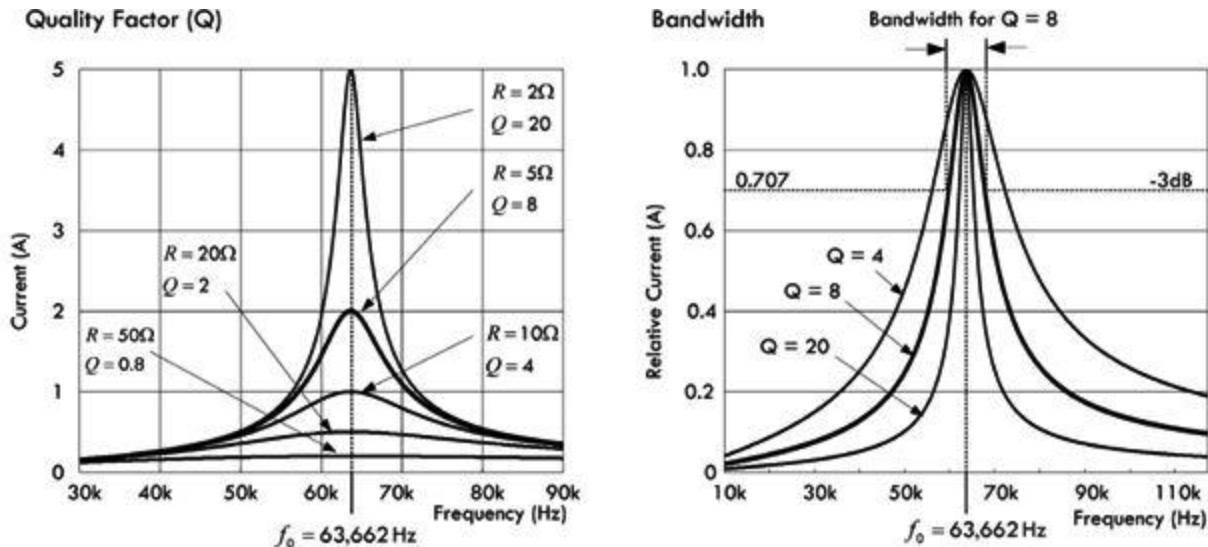

FIGURE 2.179
As mentioned earlier, the ratio of reactance or stored energy to resistance or consumed energy is by definition the quality factor Q . (Q is also referred to as the figure of merit, or multiplying factor.) As it turns out, within a series RLC circuit (where R is internal resistance of the components), the internal resistive losses within the inductor dominate energy consumption at high frequencies. This means the inductor Q largely determines the resonant circuit Q . Since the value of Q is independent of any external load to which the circuit might transfer power, we modify the resonant circuit Q , by calling it the unloaded Q or Q_U of the circuit. See Fig. 2.179.
As you can see, if we increase the resistance, the unloaded Q decreases, giving rise to broad current response curves about resonance, as shown in the graph in Fig. 2.179. With resistances of 10, 20, and 50 Ω , the unloaded Q decreases to 4, 2, and 0.8, respectively. Conversely, if the resistance is made smaller, the unloaded Q increases, giving rise to a sharp current response curve about resonance. For example, when the resistance is lowered to 2 Ω , the unloaded Q becomes 20.
An alternative way of expressing the sharpness of a series-resonant circuit is using what is called bandwidth. Basically, what we do is take the quality factor graph in Fig. 2.179 and convert it to the bandwidth graph in Fig. 2.179. This involves changing the current axis to a relative current axis and moving the family of curves for varying Q values up so that all have the
For Q values of 10 or greater, the curves shown in Fig. 2.179 are approximately symmetrical. On this assumption, bandwidth (BW) can be easily calculated: